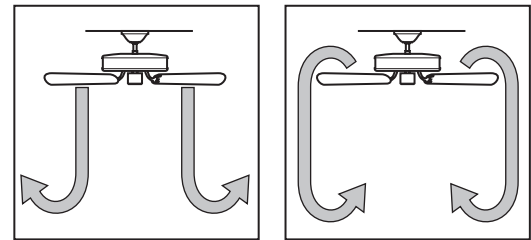

Figure 30 - Air flow patterns
4. Ceiling fans work best by blowing air downward (counterclockwise blade rotation) in warm weather to cool the room with a direct breeze. In winter, having the fan draw air upward (clockwise blade rotation) will distribute the warmer air trapped at the ceiling around the room without causing a draft. Refer to Figure 30.